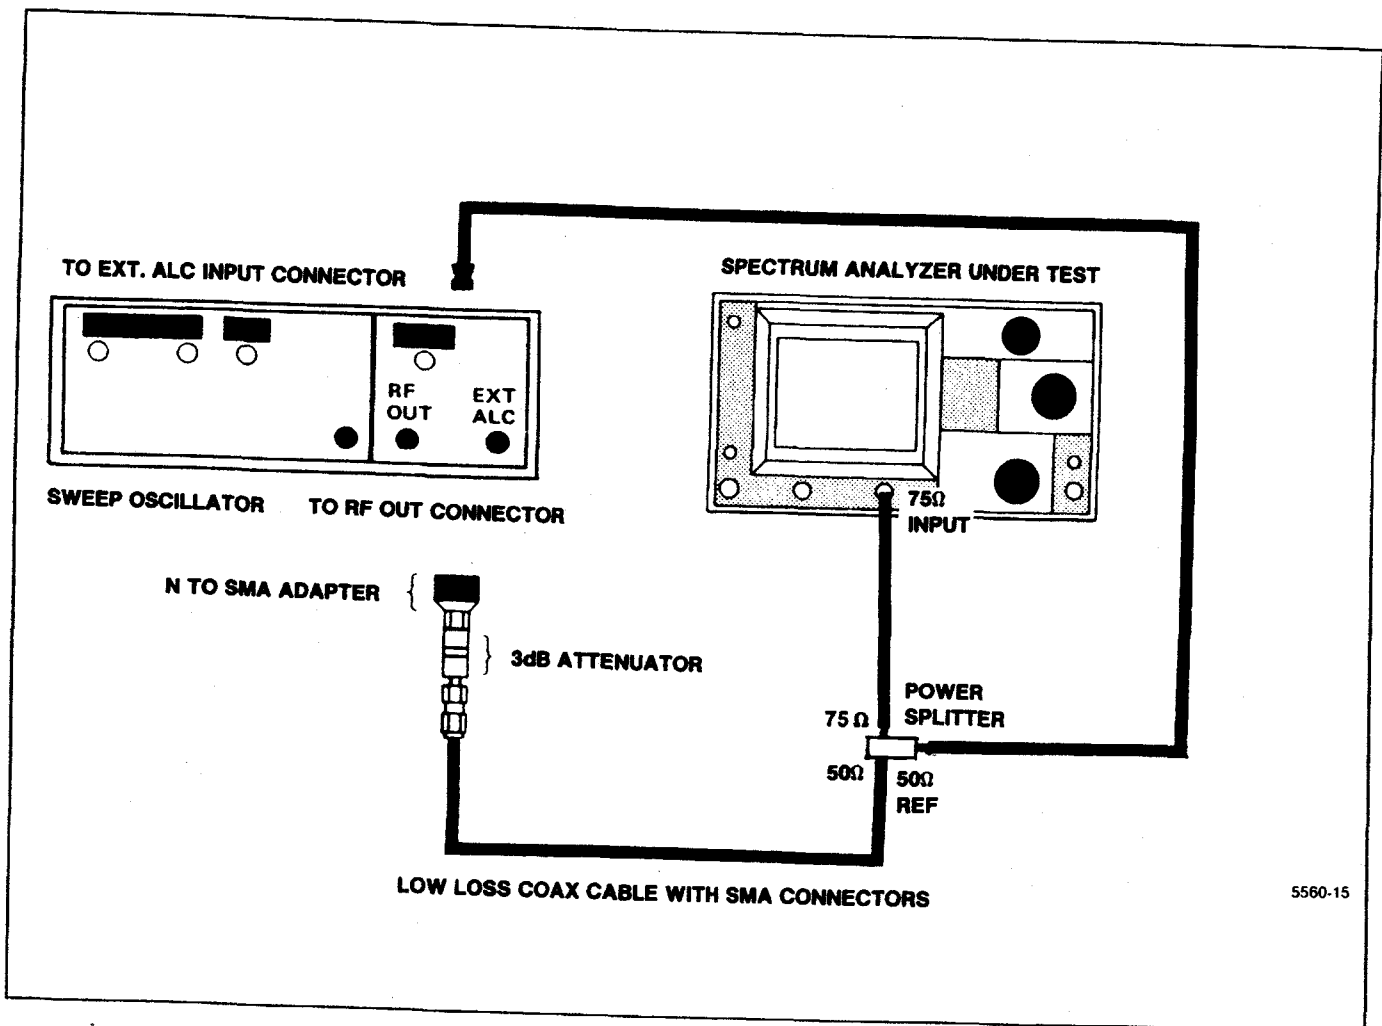

Figure 4-24. Equipment setup for checking Option 07 frequency response from 0.01 GHz to 1 GHz.
- a. Connect the test equipment as shown in Figure 4-24.